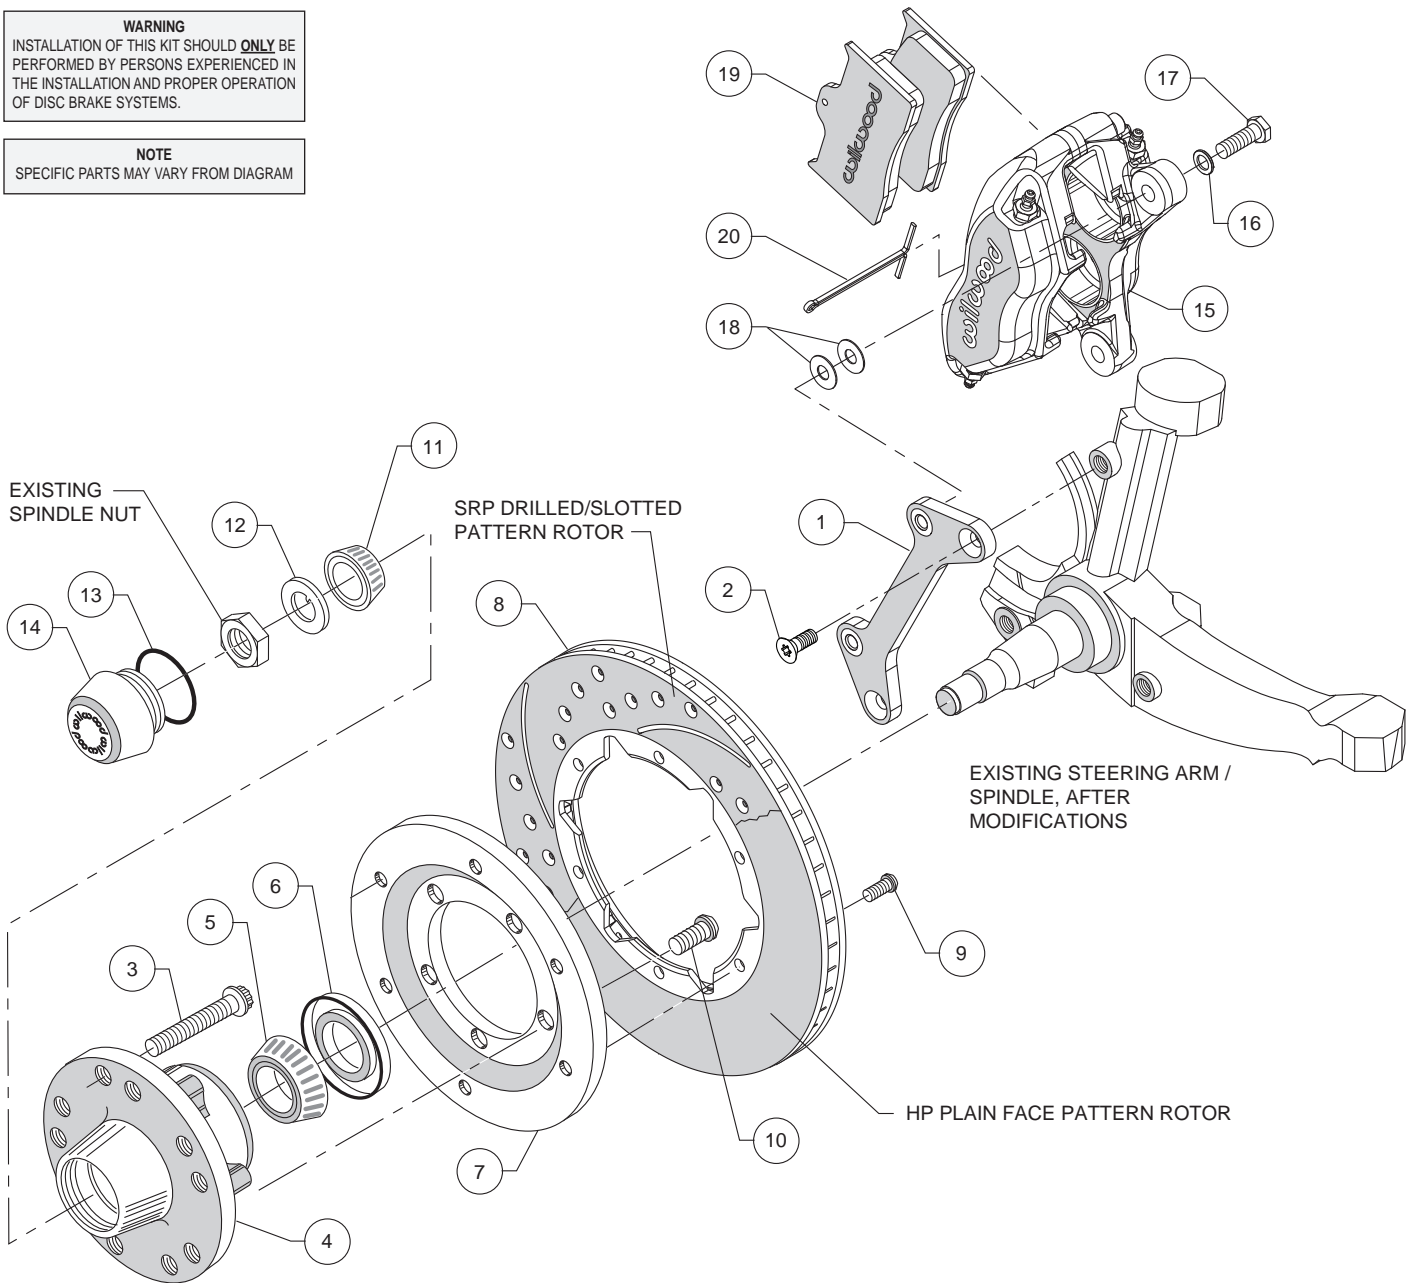
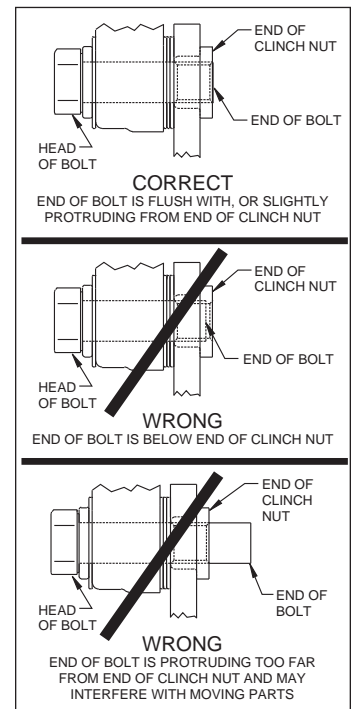

Figure 2. Typical Installation Configuration
Figure 4. Clinch Nut Engagement Diagram
Assembly Instructions (numbers in parenthesis refer to the parts list, on the preceding page and Figure 2 above): **CAUTION:** All mounting bolts must fully engage clinch nuts. Be sure to check that all bolts are either flush or protruding through flanged side of clinch nut after shimming, Figure 4.
- Align caliper mounting bracket (1) with the corresponding holes, to the face of the spindle. Attach using bolts (2) as shown in Figure 2 and Photo 1. Temporarily tighten the mounting bolts. Ensure that the flanged heads of the clinch nuts in the bracket are facing outboard, Photo 1. **NOTE:** The bracket must fit squarely against the mounting points on the spindle. Inspect for interference from casting irregularities, machining ridges, burrs, etc. Remove bolts one at a time, apply red *Loctite*® 271 to threads and torque to 40 ft-lbs.
- Orient the rotor (8) and the rotor adapter (7) as shown in Figure 2 and Photo 4. Attach the rotor to the adapter using bolts (9). Using an alternating sequence, apply red *Loctite*® 271 to the threads, and torque to 25 ft-lb.
- Mount the adapter/rotor assembly (7/8) to the hub (4) using bolts (10), as shown in Figure 2 and Photo 5. Using an alternating sequence, apply red *Loctite*® 271 to the threads, and torque to 55 ft-lb.
- NOTE:** Please reference the caution statement at the beginning of the assembly instructions. Mount the caliper (15) onto the caliper mounting bracket (1) using bolts (17) and washers (16), as shown in Figure 2. Initially place two .035" thick shims (18) on each bolt between the caliper and the bracket, Photo 8. Temporarily tighten the mounting bolts and view the rotor (8) through the top opening of the caliper. The rotor should be centered in the caliper, Photo 9. If not, adjust by adding or subtracting shims between the bracket and the caliper. Always use the same amount of shims on each of the two mounting bolts. **NOTE:** The end of each bolt must be flush with or slightly protruding from the head of the clinch nut, as shown in Figure 4. If necessary place spare shims between washer (16) and caliper mounting ear to achieve the proper clinch nut engagement. Once the caliper alignment and clinch nut engagement are correct, remove the bolts one at a time, apply red *Loctite*® 271 to bolt threads, and torque to 40 ft-lb.
- Install the disc brake pads (19) into the caliper, with the friction material facing the rotor (8), and secure in place using cotter pin (20), Photo 10.